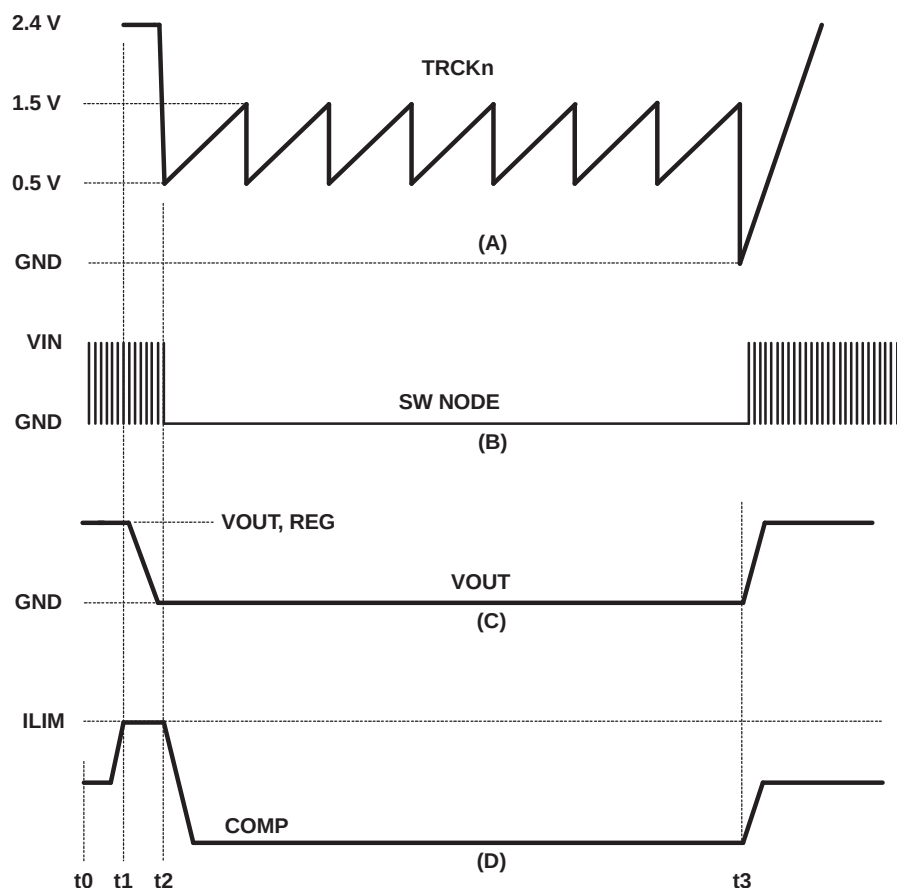

**Figure 36. Hiccup Mode and Recovery**
To reduce the input current and component dissipation during on overcurrent event, a hiccup mode is implemented. Hiccup mode refers to a sequence of 7 soft-start cycles where no MOSFET switching occurs and then a restart is attempted. If the fault has cleared, the restart results in returning to normal operation and regulation. This is shown in Figure 36.
In Figure 36, normal operation is occurring between t0 and t1 as shown by  $V_{OUT}$  being at the regulated voltage, (C) and normal switching on the SW NODE (B) and COMP at its nominal level, (D). At t1, an overcurrent load is experienced. The increased current forces COMP to increase to the ILIM level as shown in (D). If the COMP voltage is above the ILIM voltage for 7 switching cycles, the controller enters a hiccup mode. During this time the controller is not switching and the switching MOSFETs are turned off. The TRKx voltage goes through 7 cycles of charging and discharging the soft-start capacitor. At the end of the 7 cycles the controller attempts another normal restart. If the fault has been cleared, the output voltage comes up to the regulation level as shown at time t3. If the fault has not cleared, the COMP voltage again rises above the ILIM voltage and the hiccup mode repeats.